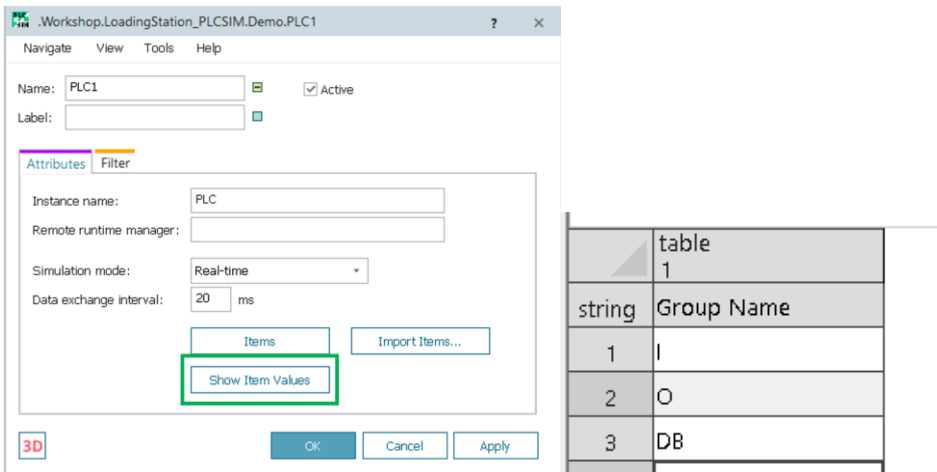

Figure 2-18
6. To monitor the **output signals from the PLC instance**, just come back to the table view shown in Figure 2-18 and double click on the "O" field. A new table view will appear showing the current values of those signals, again, in real time.